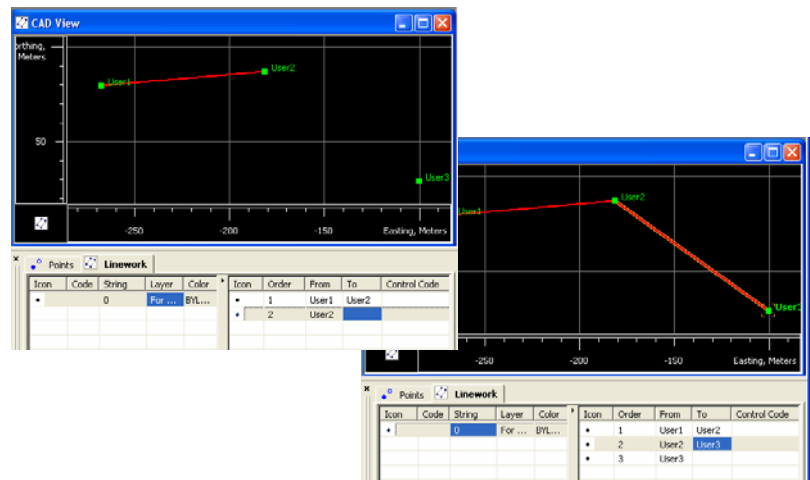

Figure 5-38. Create Line Segments for the Arc
1. If needed, create the line segment that will become the arc. Use the ‘append point’ feature as described in “Appending Points to a Line” on page 5-22 to add points to the line (Figure 5-38 on page 5-28).